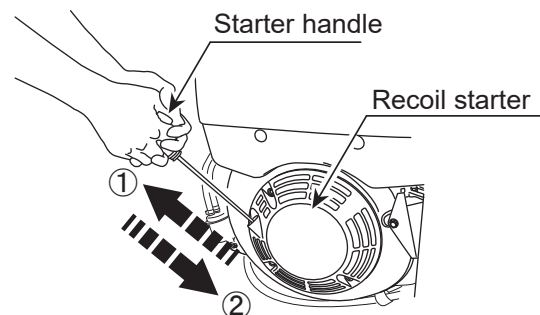

Fig.19
7. Hold the starter handle, and pull it slowly until you feel strong resistance. Then, slowly return the starter handle to the initial position. (Fig.19)